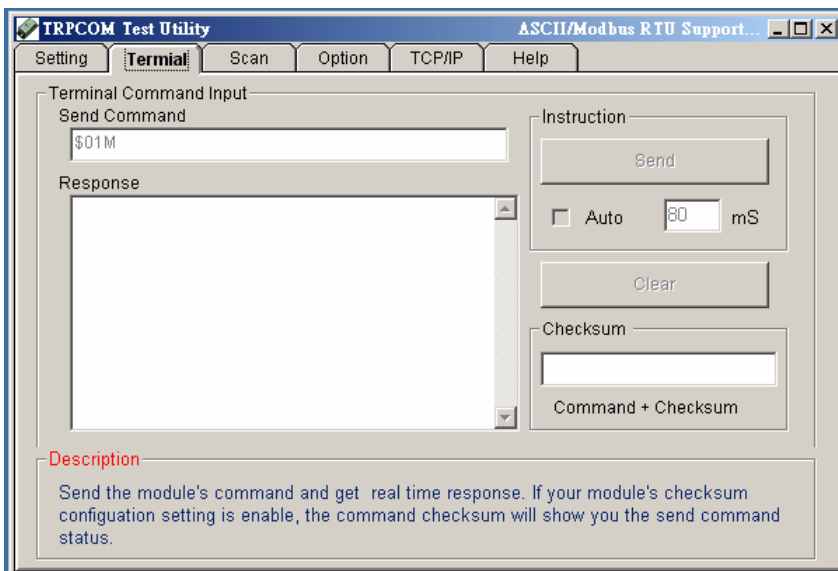

Figure 2
2.The “Terminal” function is for user to input command, user can control all of module’s digital input/output status or wait to get module response status See Figure 2.